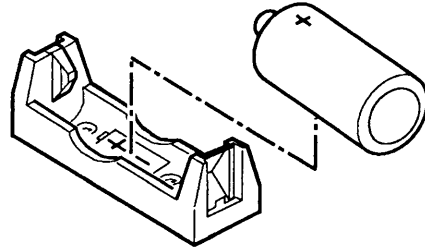
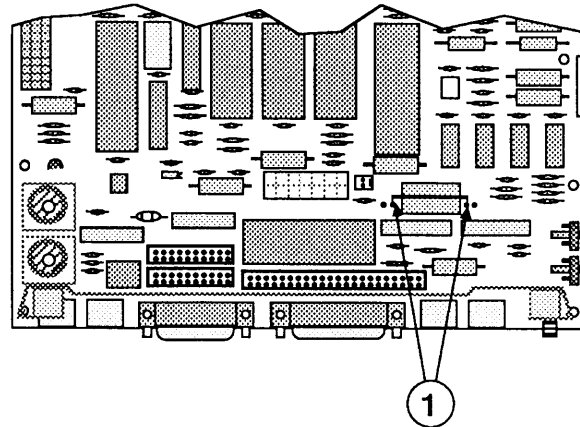
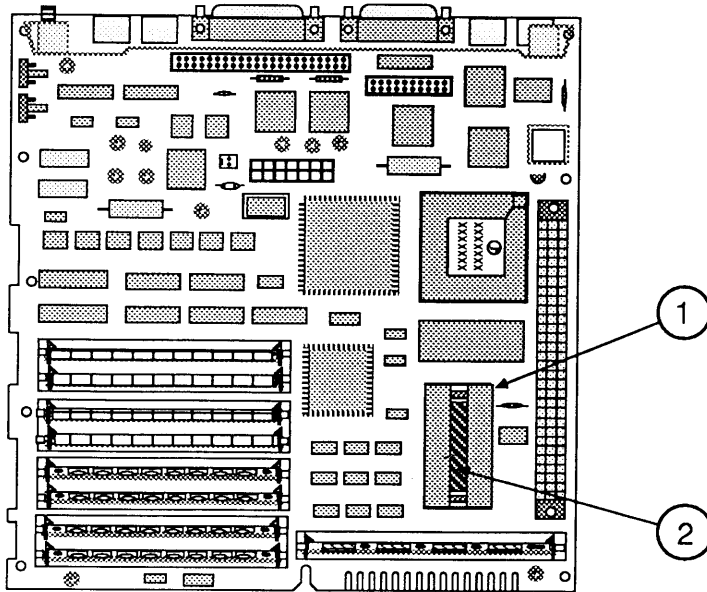

FIGURE 2
FIGURE 3
FIGURE 4
5. Orient the new battery so that the end marked "+" matches the "+" on the main logic board (Figure 2). Insert the battery leads into the extra set of mounting holes (Figure 3, #1) on the logic board (just inside the original mounting holes). Make sure the leads go all the way through the logic board to the other side.
4. Remove the plastic cover (Macintosh SE/30 only) (Figure 4, #1) and pull the battery out of the battery holder (Figure 4, #2).
5. Orient the new battery so that the end marked "+" matches the "+" on the main logic board (Figure 2). Insert the battery in the battery holder (Figure 4, #2) and (if necessary) replace the plastic cover (Figure 4, #1).